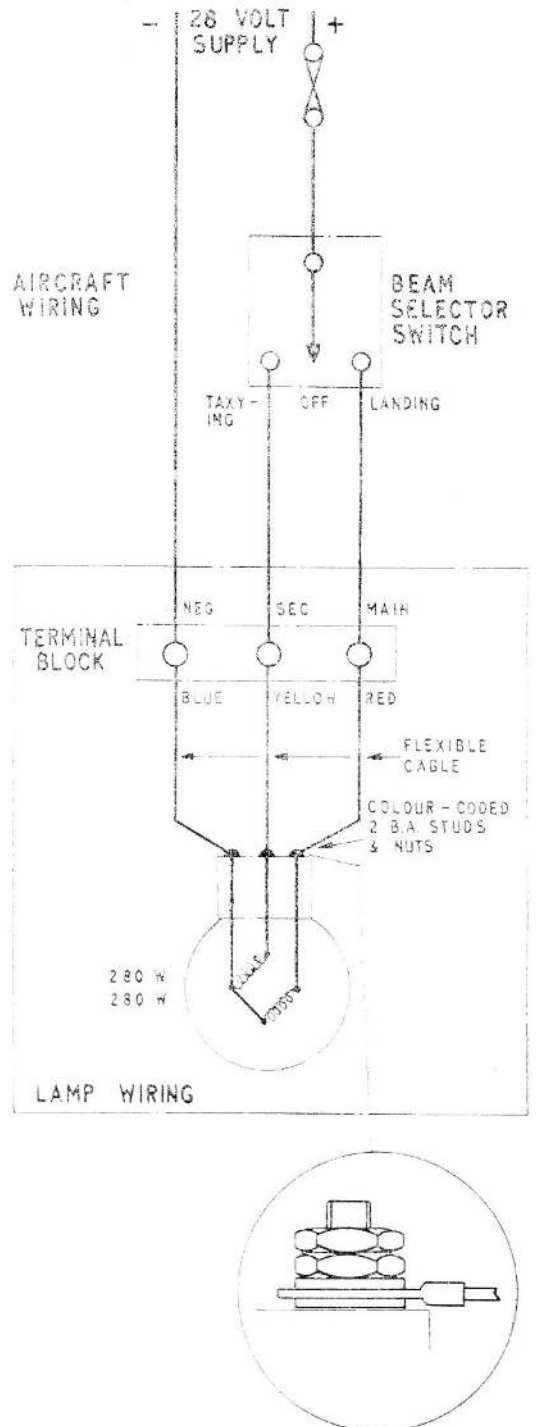

Fig. 2. Circuit diagram
7. The light source of the Harley, Type 8KD landing lamp has two filaments each rated at 280 watts. The main filament is at the focal point of the reflector whilst the auxiliary filament is a little to the rear and above it and produces a more dispersed beam for taxiing. The filament special cap has a locating pin at the side and has three terminal studs at the rear, illustrated inset in fig. 2, coded:—
8. Power supply is from a 28 volt source, through a three way, centre off position switch, permitting selection of filaments. The circuit diagram is shown in fig. 2. Connection to the lamp is made using a standard three-way 19 amp S.B.A.C. terminal block (Ref. No. 5H/2) and crimped conductor ferrules (Ref. No. 5H/9400055 or 5X/7545).